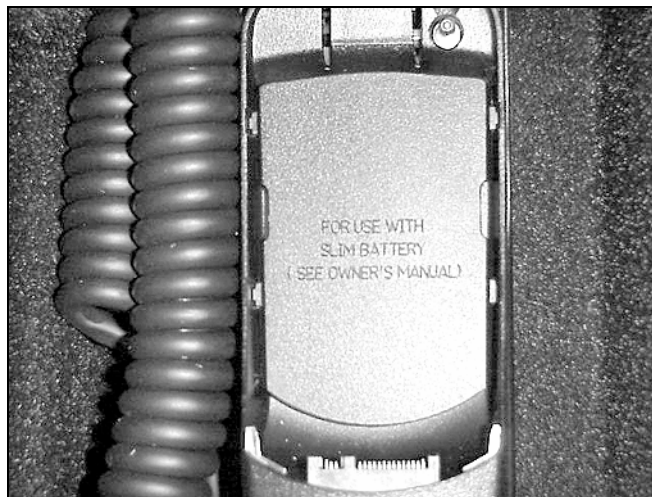

Figure 14
26. Install the battery insert plate marked "FOR USE WITH SLIM BATTERY" when using the slim battery (500 mAh) with the telephone (Figure 14).
Note: The embossed text on the installed battery insert plate must face up as in Figure 14.